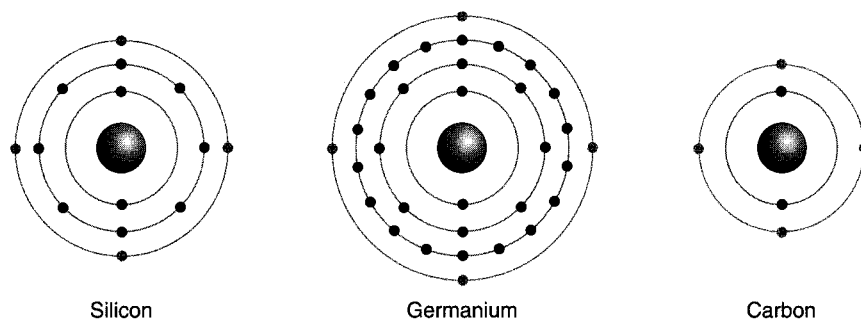

FIGURE 1.2 Semiconductor atoms.
Three of the most commonly used semiconductor materials are *silicon* (Si), *germanium* (Ge), and *carbon* (C). These atoms are all represented in Figure 1.2. Note that each of these elements contains four valence electrons. Of the semiconductors shown, silicon and germanium are used in the production of solid-state components. Carbon is used mainly in the production of resistors and potentiometers.